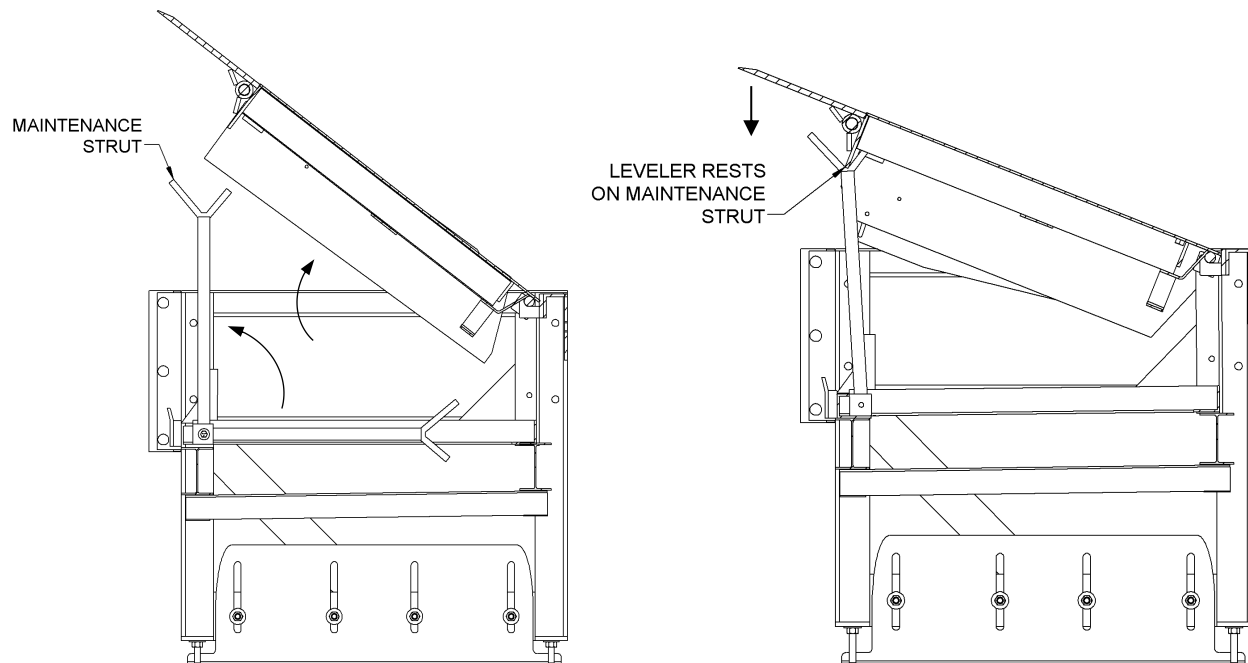

Figure 13: Installing Maintenance Strut
1. Press the UP button to fully raise the leveler platform. The UP button will remain pressed until step 2 is complete. See Figure 13.